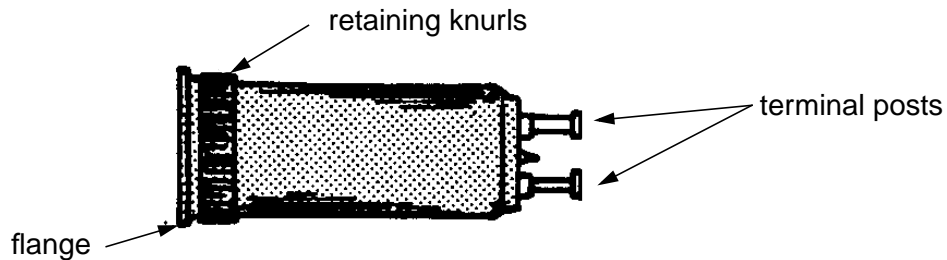

Figure 1 - General Description of DHP Lamp Socket
- 4.1.1 Eldema press-in-place lamp sockets, type DHP as specified on the engineering drawing. Refer to Figure 1 for a general description of Eldema DHP lamp sockets.